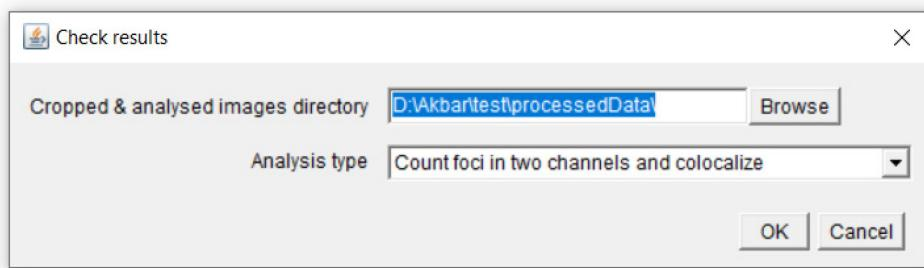

Figure 3.9. The check results menu
STEP 11. To control the analysis accuracy, whenever the save ROIs option was selected, use the “Start checking results” in the main meiosis bar. The “Check results” window will pop up (figure 3.9). If you just ran the macro, then the default folder and method are OK. If you control afterwards the macro’s results, set both folder and “Count axis/off-axis foci in two channels and colocalize” method.